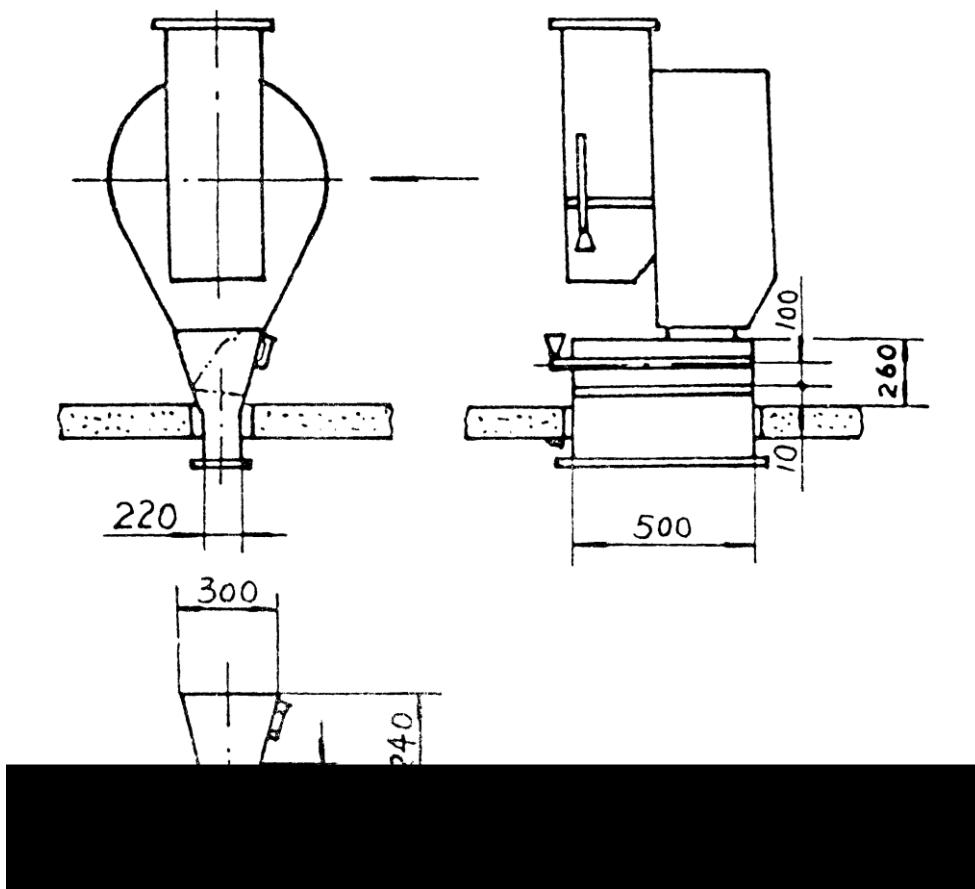

Fig. 9 Feed outlet
4.1.2 The equipment must be installed on the firm foundation. Dig the foundation according to the base size on the schematic diagram (see Figure 9), pour cobble concrete and screw the foundation bolt on. Some good practice should be followed when installing the pellet mill on the floor to make sure that vibration of machine during the normal run can be absorbed after the installation.